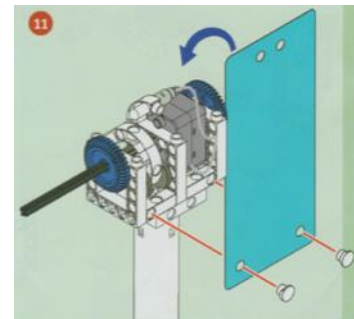

Figure 8: Turbine Assembly
**Use Figure 8 for steps 20-22.**